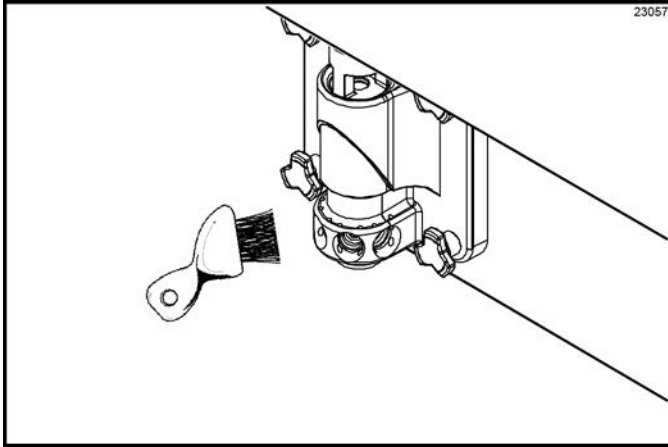

Figure 6-75
- With the syrup port brush, brush each syrup port hole 10 to 15 times. Dip the brush in sanitizing solution before brushing each port. (See Figure 6-75.)